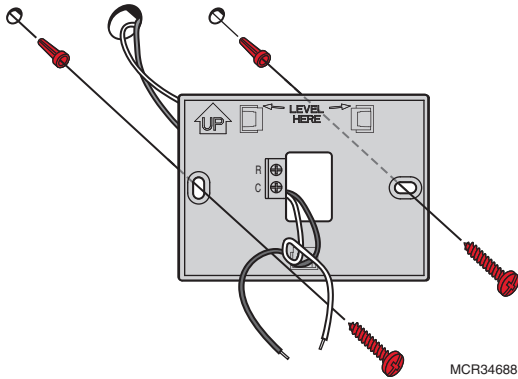

Fig. 18. Mounting wallplate (THX9421).
5. Position the wallplate over the holes, pulling wires through the wiring opening. See Fig. 18.